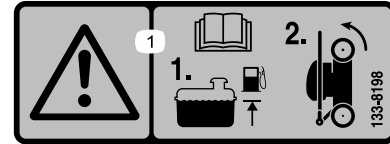

Figure 19
1. Ensure that the level of fuel in the fuel tank is no higher than what is recommended by the engine manufacturer; refer to the engine manufacturer's decal on the engine (Figure 19).